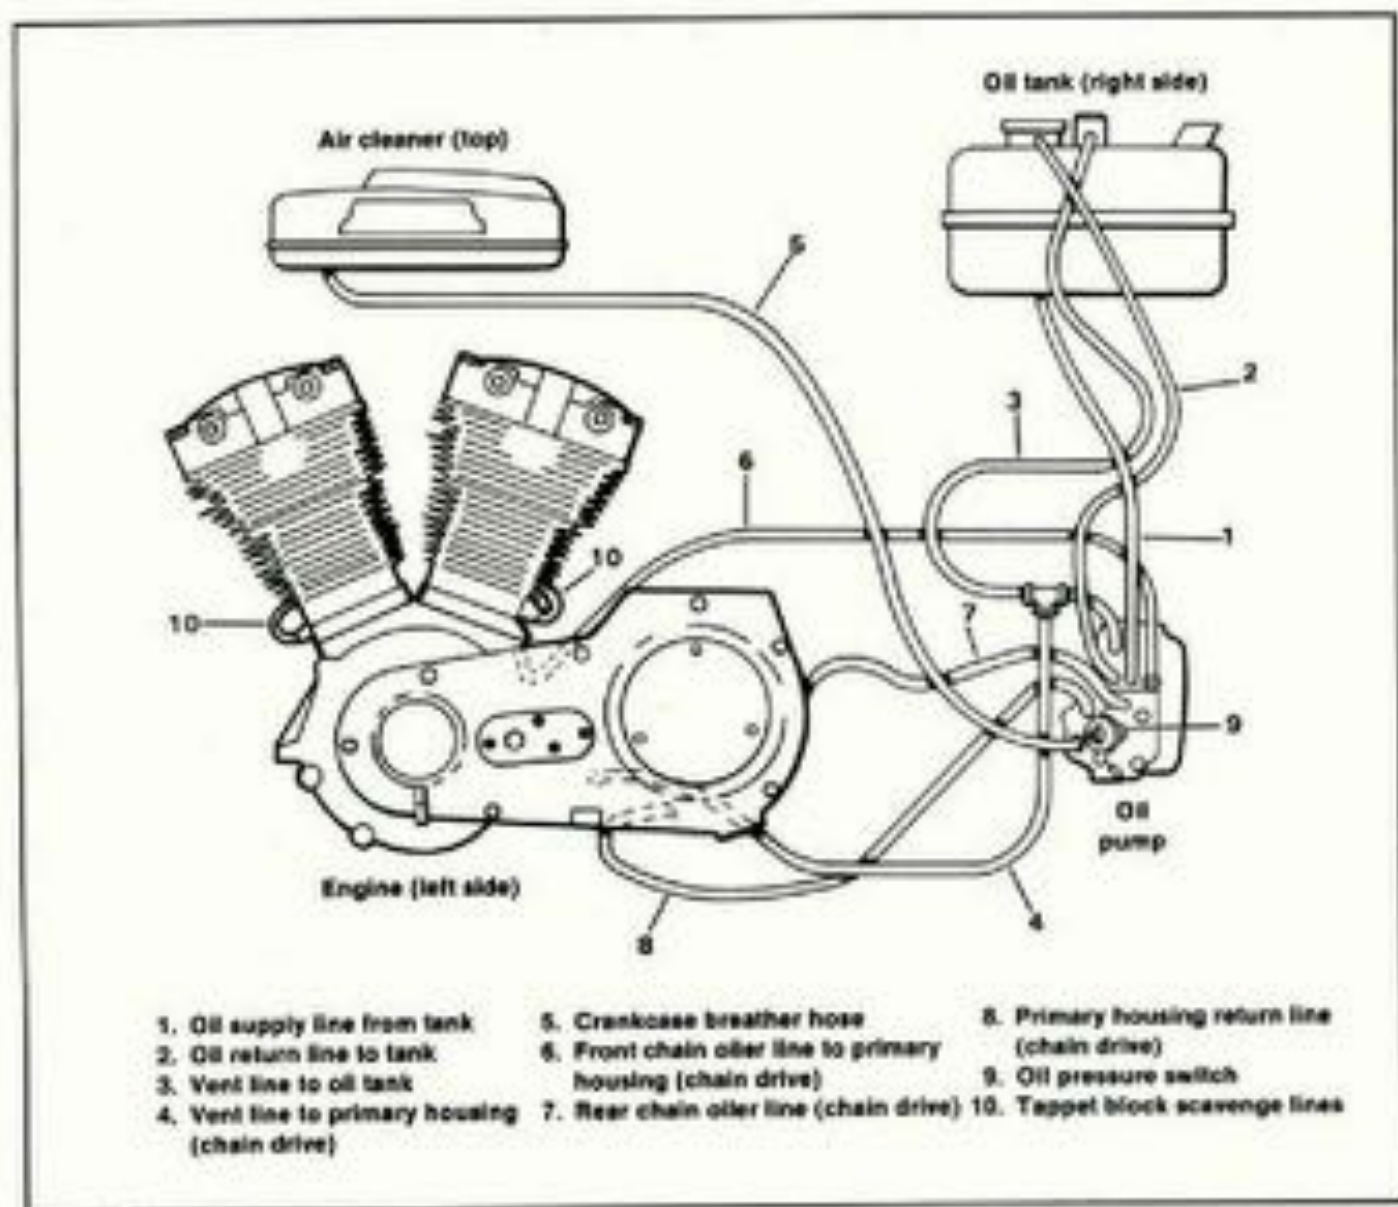

Figure 3-29. Oil Hose Routing — 1981 And Earlier
- 11. Install oil pressure switch (1).
- 12. Connect oil lines to pump. (Figure 3-29, 3-30). Oil hose connections use one piece band type clamps which cannot be reused. Use HOSE CLAMP TOOL, Part No. HD-97087-65A to squeeze new hose clamps tight.